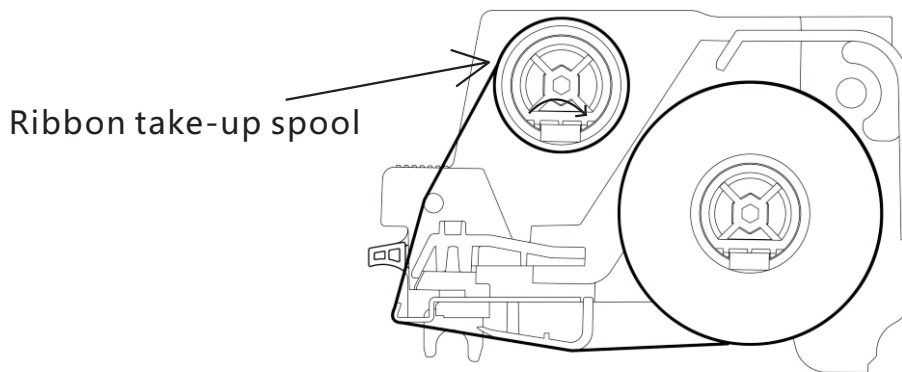

Figure18
6. As shown in Figure 18, rotate the ribbon rewinding wheel to tighten the ribbon and reduce wrinkles.